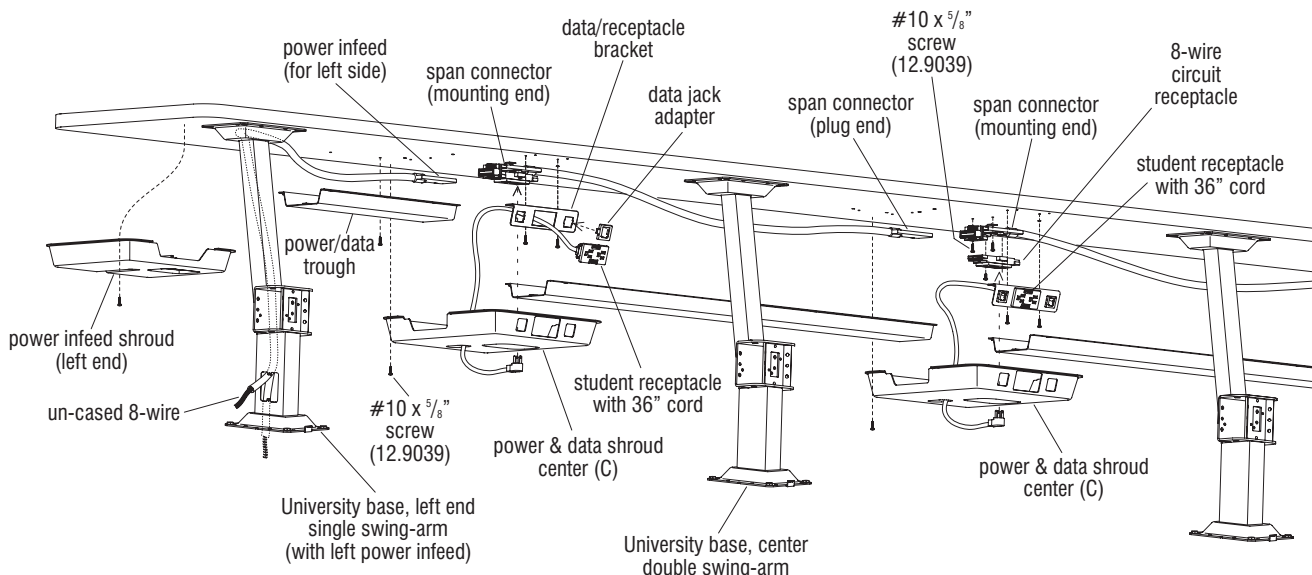
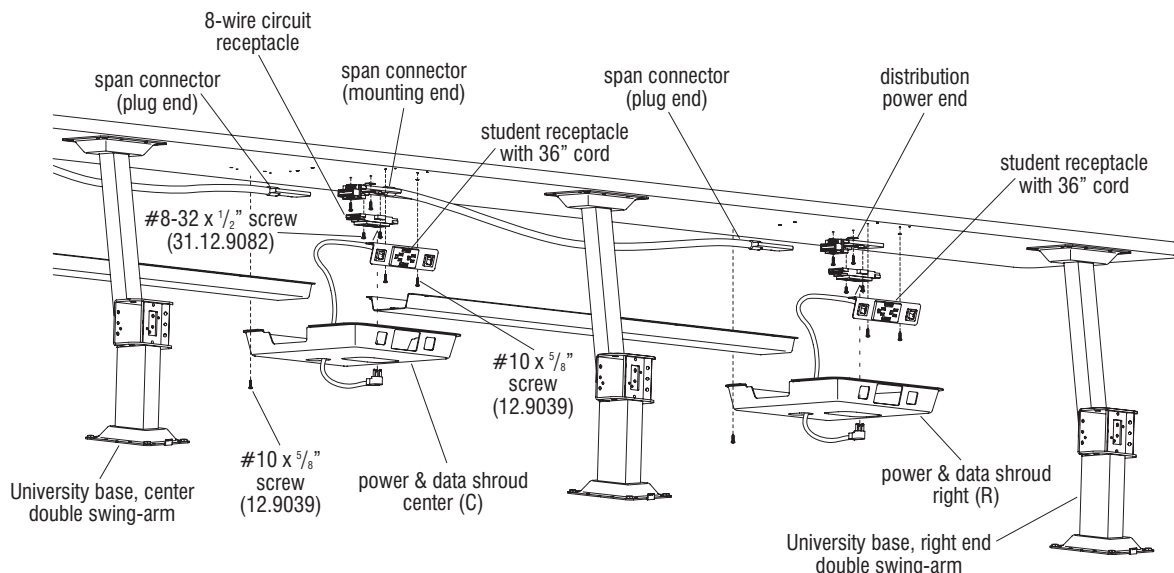

Figure 17 - Left Power Infeed with Single Swing-arm Ends (Power Infeed Detail)
Figure 18 - Left Power Infeed with Single Swing-arm Ends (Single Swing-arm Detail)
58. To begin installing undersurface power span connectors, look to the right-hand side of the left, single swing-arm power infeed base and locate the set of pre-drilled span connector mounting holes in the table top, midway between the left power infeed base and the base just to the right. Install a span connector (mounting end) to the underside of the table top using two #10 x 5/8" screws as illustrated and torque to 25 in/lbs. Allow the plug end to hang down for the time being (Figure 17 & Detail A).
59. Snap the plug end of the left power infeed into the mounting end of the span connector which was just installed (Figure 17).
60. Per the space-planning layout, continue down the line to the right and install the mounting ends of span connectors to the underside of the table top using two #10 x 5/8" screws as illustrated. Torque screws to 25 in/lbs. At the end of the run of span connectors, a "distribution power end" will be installed in the same manner as the span connectors were (Figure 18). Snap the plug ends of the span connectors into the mounting ends as you go along. Snap the plug end of the final span connector into the distribution end as illustrated (Figures 17 & 18, Detail B).
61. Follow correct circuit designations and install 8-wire circuit receptacles to the mounting end of all span connectors using two #8-32 x 1/2" screws provided. Torque screws to 20 in/lbs. (Figures 17 & 18, Detail B).
63. Locate the mounting holes for the data/receptacle bracket (Details A & B). Install the data/receptacle bracket to the underside of the table top with two #10 x 5/8" screws torqued to 25 in/lbs (Figures 17 & 18).
Properly routed, the data lines will be separated from the line voltage flexible conduit by a divider in the power/data trough. Data line infeeds may be run up a University base in a different location than power infeed, but will use a power infeed shroud the same as in power infeed locations (Figures 17 & 18). From behind the data/receptacle bracket, snap the appropriate data lines into the data jack adapters.
65. Following the space-planning layout, install student receptacles to the data/receptacle brackets by first routing the cord through the opening in the data/receptacle bracket, then snap the receptacle into place. Allow 36" long receptacle cords to hang down until a later step (Figures 17 & 18).
cut-out at each side of the shroud for power/data troughs and the **"right (R) power & data shrouds"** do not have a cut-out for a trough at the right side of the shroud (Figures 17 & 18).
67. Following the space-planning layout, locate the correct position for the various power & data shrouds along the run of table tops. Position the shroud up to the table top and allow the cord of the student receptacle to drop down through the front-most cut-out as illustrated. Both the student receptacle and data jacks, as well as the bottom-facing circuit receptacle should protrude through their appropriate cut-outs in the shroud. Secure all power and data shrouds to the underside of the table top using #10 x 5/8" screws in pre-drilled holes torqued to 25 in/lbs at the underside of the table top (Figures 17 & 18, Details B & C).
69. At the left power infeed location, position the power infeed shroud (left end, with a cut-out only on the right for a power/data trough) up into position, making sure the troughs fit into it correctly and that the shroud back mates correctly with the base's upper mounting flange. With a pencil, mark the mounting hole locations, then use a 1/8" diameter drill bit and pre-drill to 1/2" depth, taking care to not penetrate the table top. Install power infeed shroud using #10 x 5/8" screws provided torqued to 25 in/lbs to secure. (Figures 17 & 18).